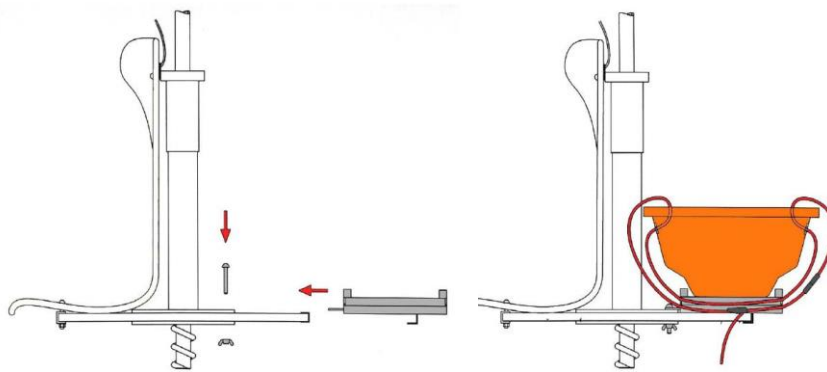

Figure 9: Stretcher Fitting Diagram
- vi. Refer to Figure 9: Stretcher Fitting Diagram.
- vi. Secure the stretcher in position with the two straps provided as shown in Figure 9 Stretcher Fitting Diagram: